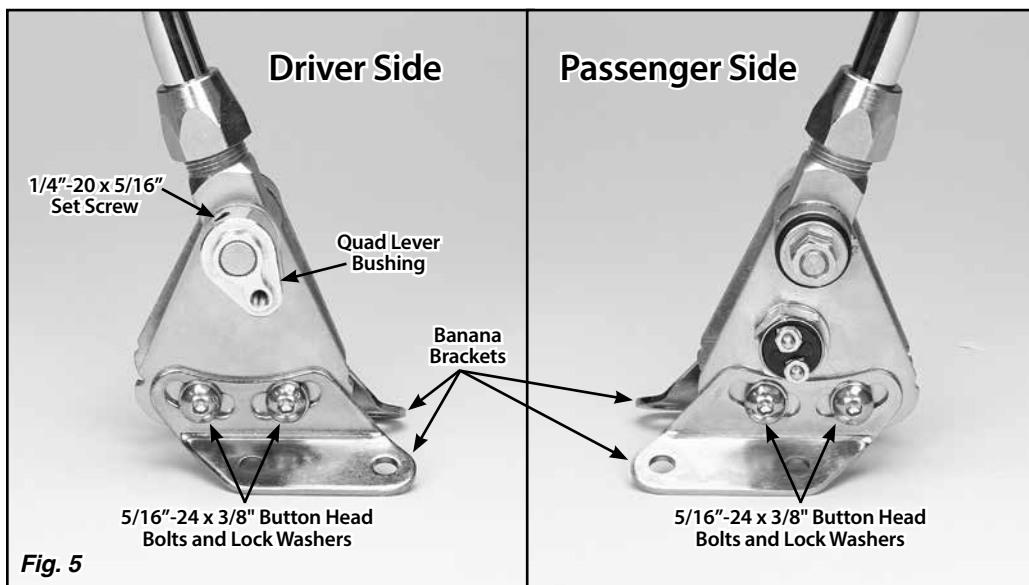

Fig. 5
Step 8: Install the banana brackets onto the shifter assembly using the 5/16"-24 x 3/8" button head bolts with lock washers. The curved, slotted holes in the banana brackets go against the shifter, and the bottom of both banana brackets should be pointing towards the rear. **Fig. 5**
Double check to make sure the bolts in the driver side banana bracket are tight. **Fig. 5**